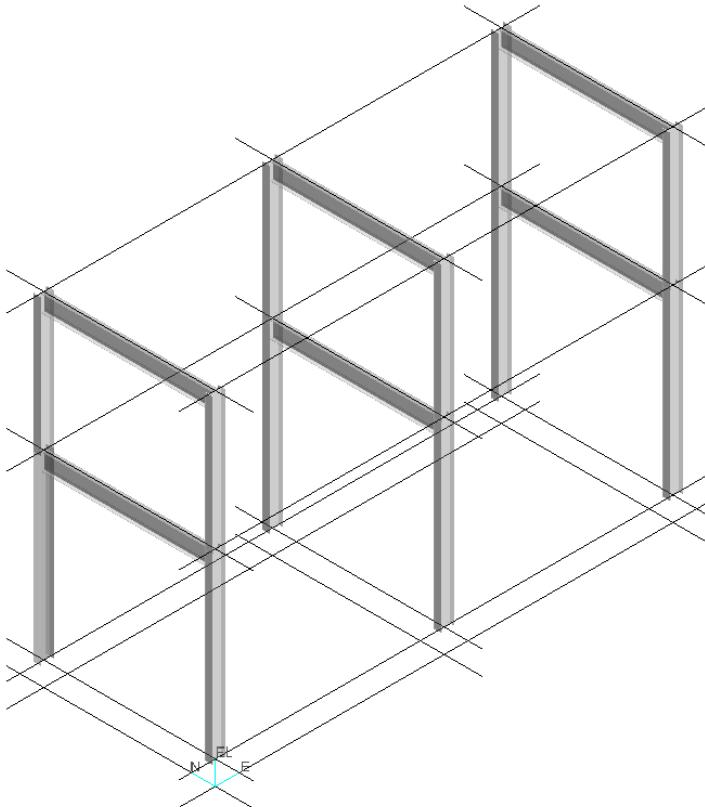

Figure 2 –Isometric View of the Structure U02
11. Use the Copy/Paste commands to place the four members at East Plane locations 6m and 12m. See figure 2. Make sure to select the appropriate objects to re-establish the connection in the Paste Special Dialog box.